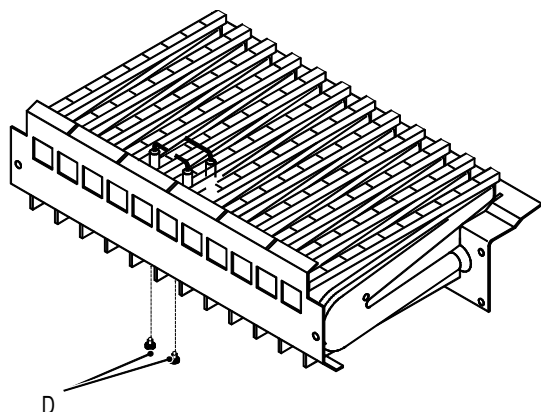

Figure 4
- 5) Unscrew the screws D (Figure 4) which hold the electrodes to the burner.